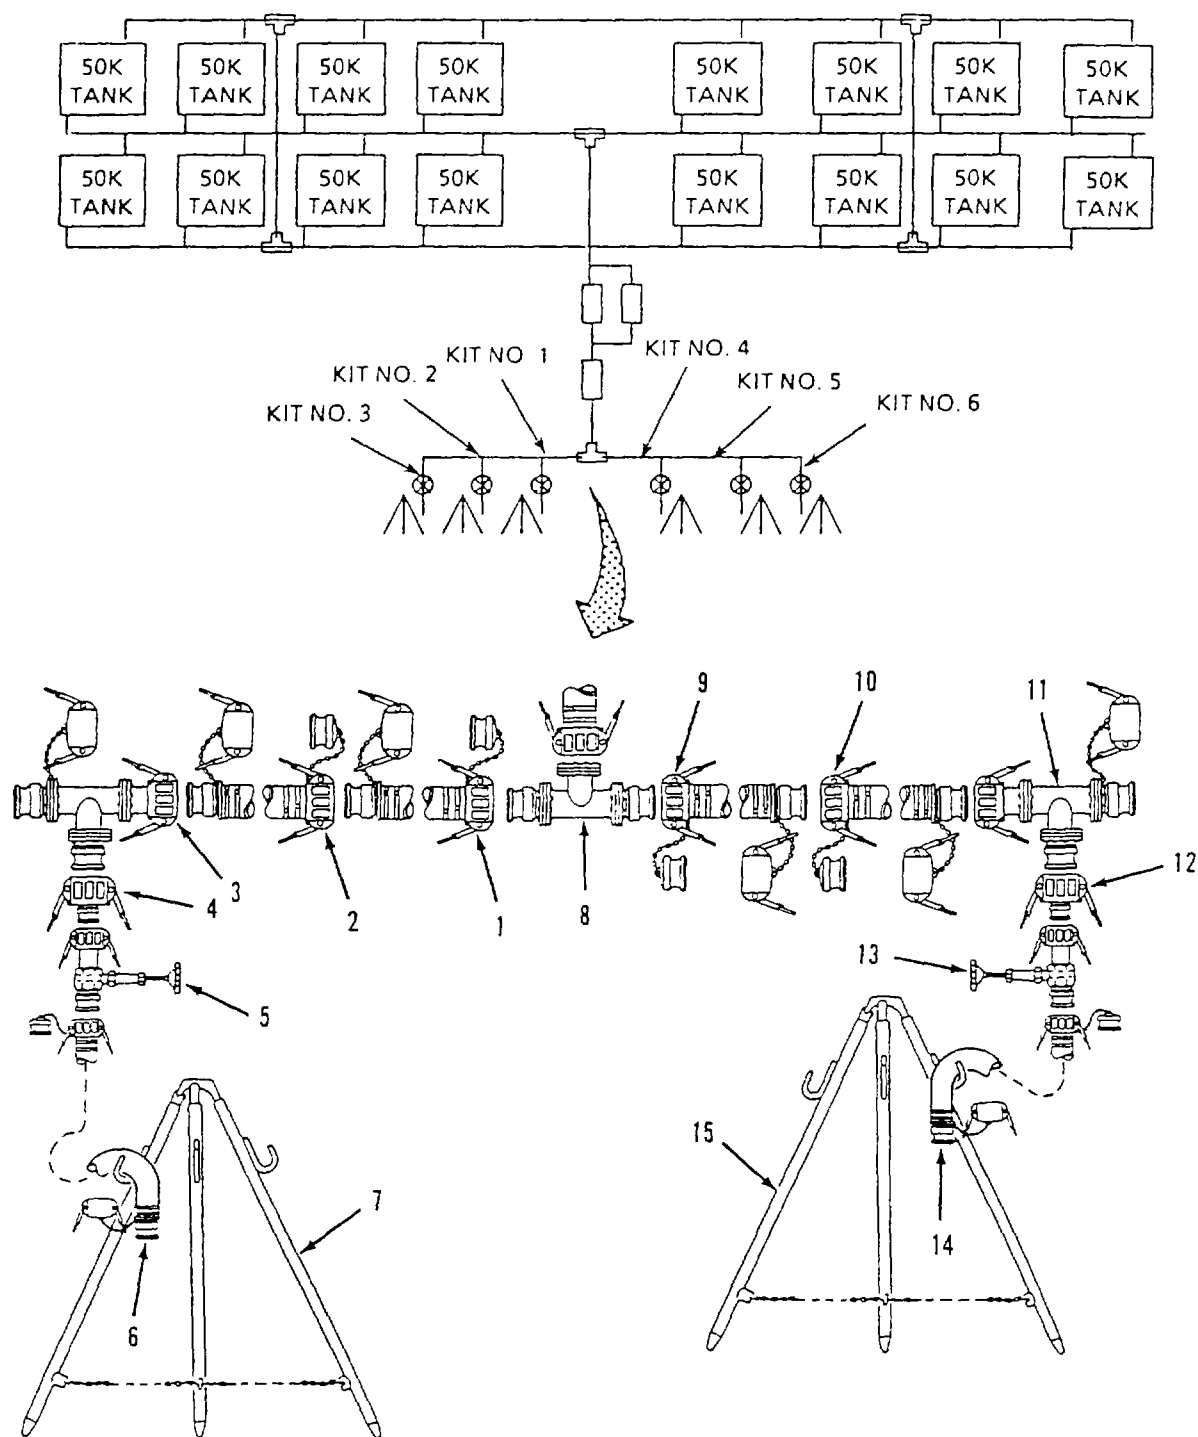

Figure 2-29. 2-Inch Hose Connection Kit Disassembly.
- e. Disassemble 2-Inch Hose Connection Kits . Refer to figure 2-29.